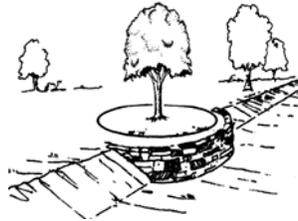

Figure 7. Removing soil while retaining the PRZ for impacted species.
- On root severance **tolerant** species, may disturb **up to 25%** of PRZ area (not diameter). [Figure 7]